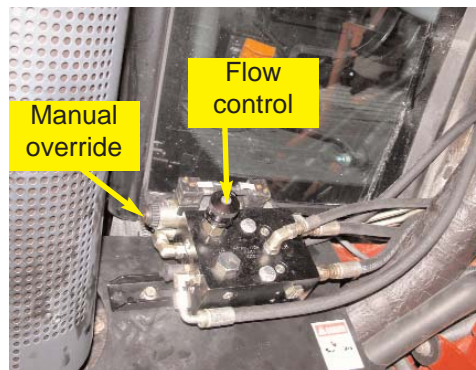

Figure 11. Automated steering oil flow control knob and manual override button.
- Turn counter-clockwise to increase flow.(Figure 11.)